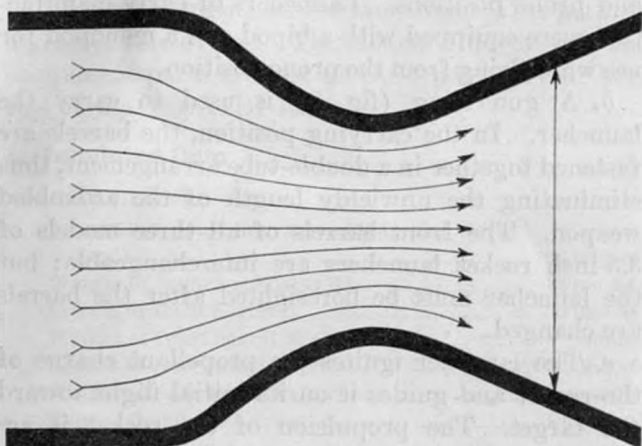

Figure 6. A venturi tube.
c. The rocket motor, or stabilizer tube, is closed at the forward end and has a constricted opening at the rear called a nozzle or venturi (fig. 6). This